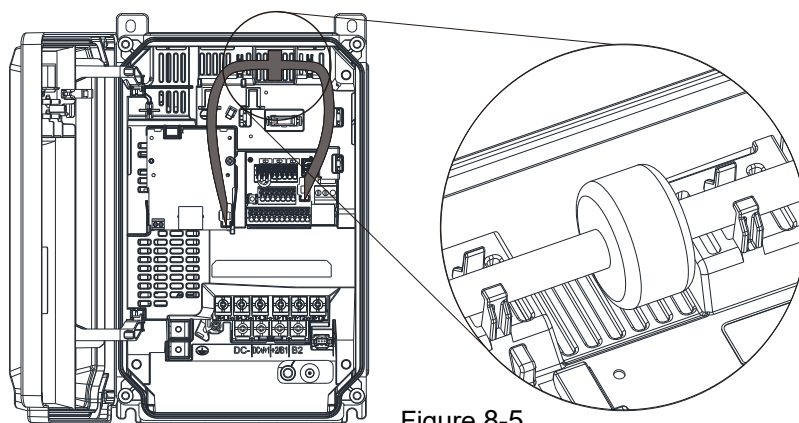

Figure 8-5
- See Figure 8-5 for wiring positions.